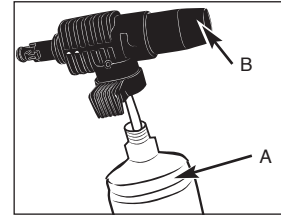

Fig. 4-1A
1. Add detergent into the chemical tank (A) and attach detergent sprayer (B). (Fig. 4-1A)